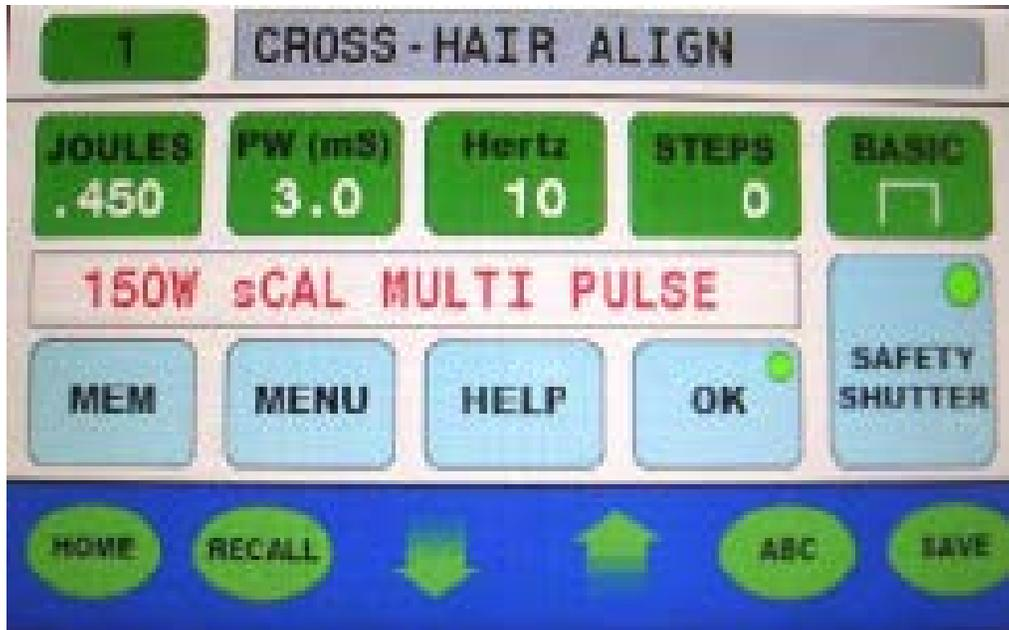

Figure 8
17. Select the **Joules button** from the **main menu**. Next, press the **up** or **down arrow** and enter either the first or second joules value (displayed in the table on **pages 206 or 208** (for correct values, be sure to reference your device’s unique certificate or ID label). The laser is enabled and the display will read “150W sCAL MULTI PULSE” (**figure 8**).